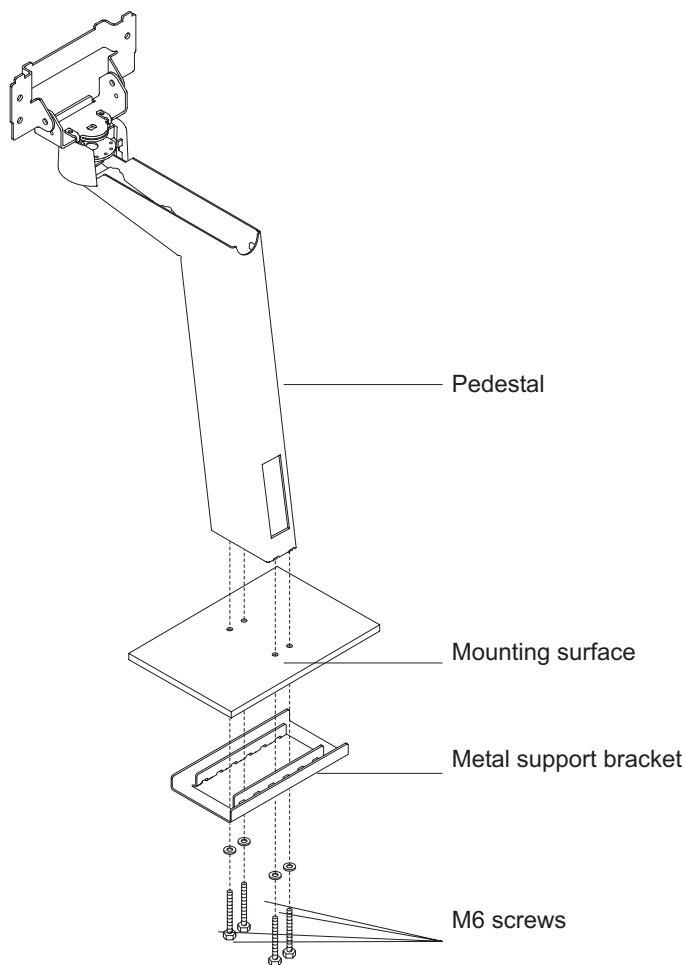

Figure 19. Mounting the distributed pedestal
The distributed pedestal is available in short (238.2 mm/9.38 inches) and tall (350.6 mm/13.80 inches) versions. Both pedestals bolt to your counter; therefore, installation is the same. Figure 19 shows the mounting order for the tall pedestal.
3. Use the enclosed M6 screws to secure the pedestal to the counter as shown in Figure 19 on page 20. The slots located in the metal support bracket allow you to position the pedestal for maximum stability.